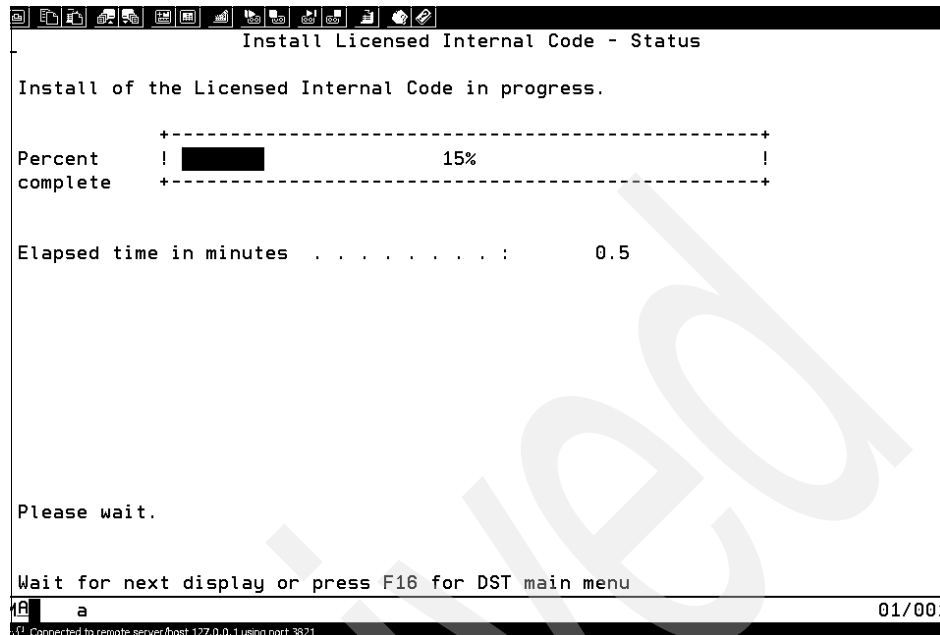

Figure 5-40 Install LIC status
9. Next, the Install Licensed Internal Code status display appears on the console as shown in Figure 5-40 on page 259. It will remain on the console for approximately 30 minutes.